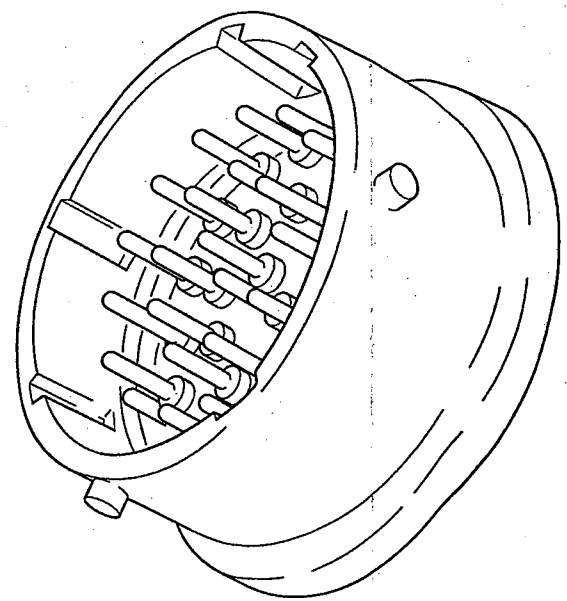
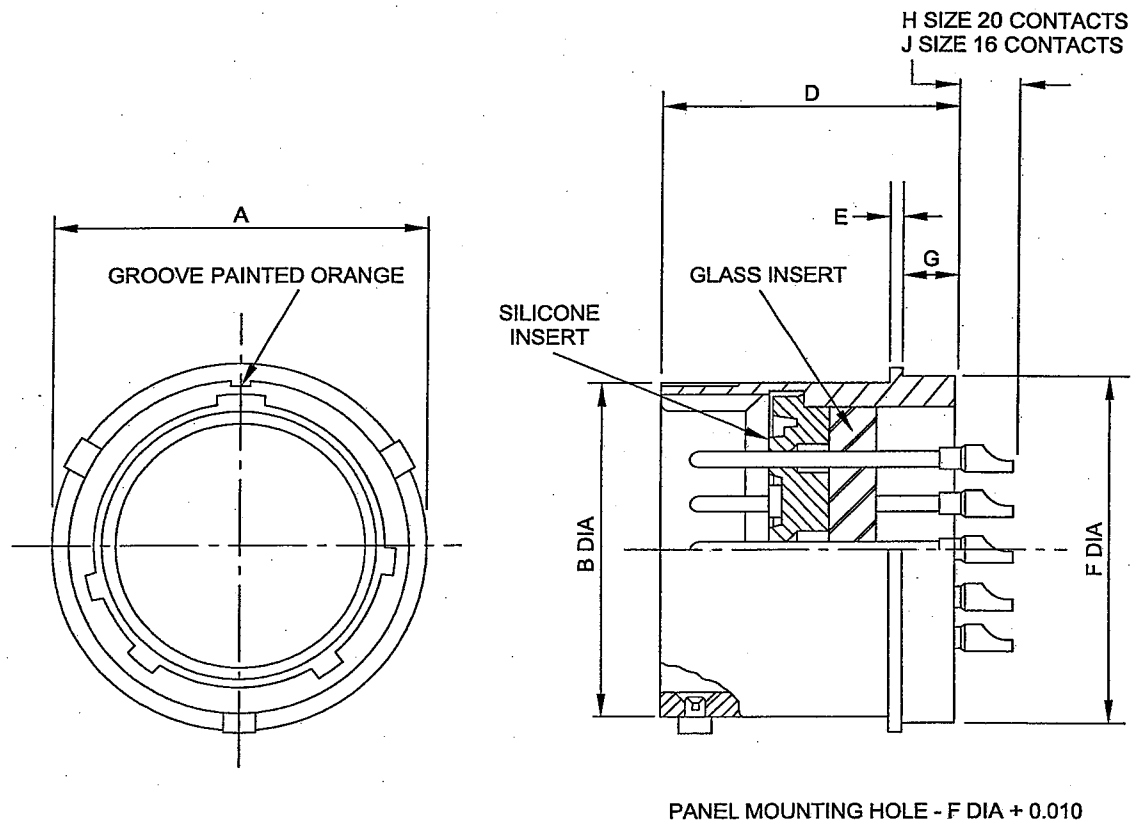

Fig 20 416H Solder mount receptacle, general view
Fig 21 461H Solder mount receptacle, dimensions
15.1 The 461H solder mount receptacle (Fig 20) conforms to MS3113 specification. Details are given in Fig 21 and Table 12. The dimension of the panel mounting hole is diameter F, plus 0.010 in.